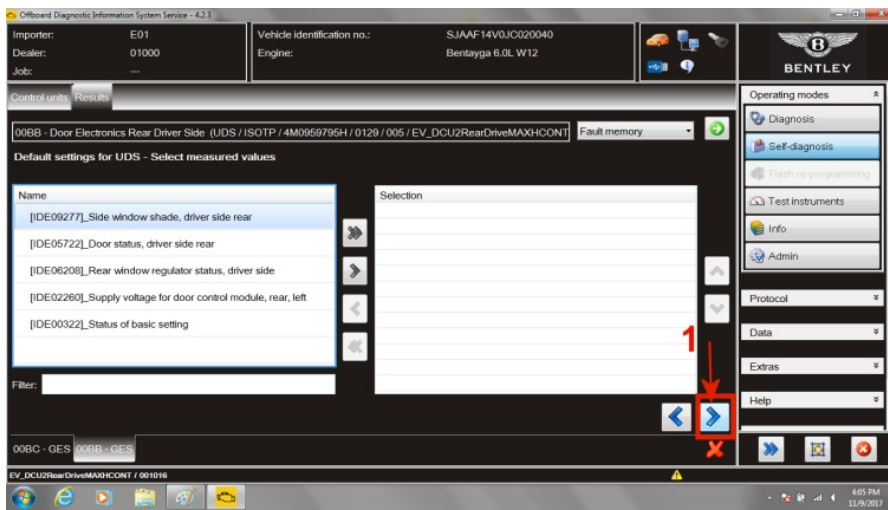

Figure 11
22. Select forward arrow (1) at *Default settings for UDS – Select measured values* it is not necessary to select a measured value (see Figure 11)